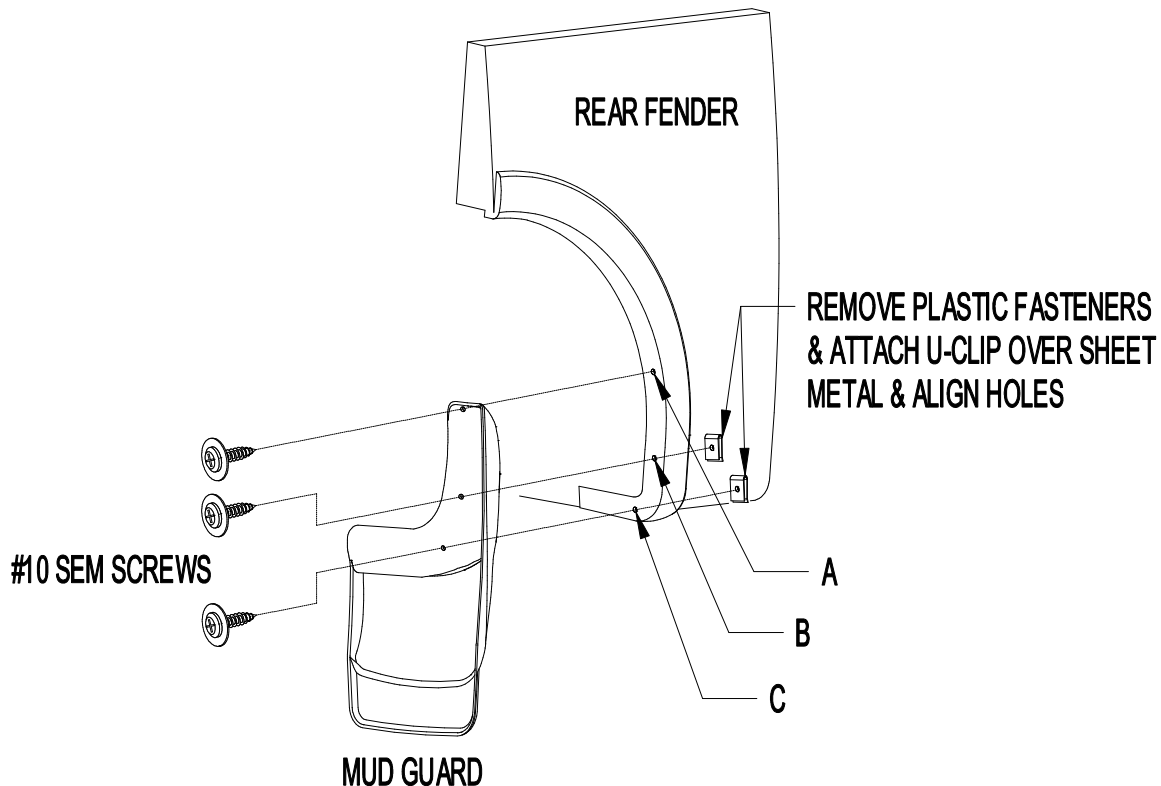

Figure 1
2. Remove factory plastic fasteners from locations B and C (Figure 1).
3. Place U-clips over sheet metal and align fastener and U-clip holes at locations B and C (Figure 1).
5. Using the mud guard as a template, center punch and drill an 1/8" hole at location A (Figure 1).